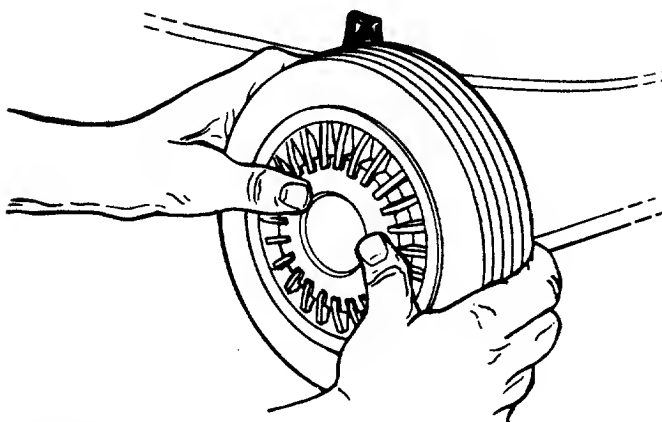

FIGURE 11.
2. Place hub caps in position against the inner hub of the wheel. Press firmly around the center portion of hub cap in a circular motion, similar to installing a lid on a round, plastic container. See figure 11. The hub caps are flexible and will snap over the 3½" diameter wheel hubs.